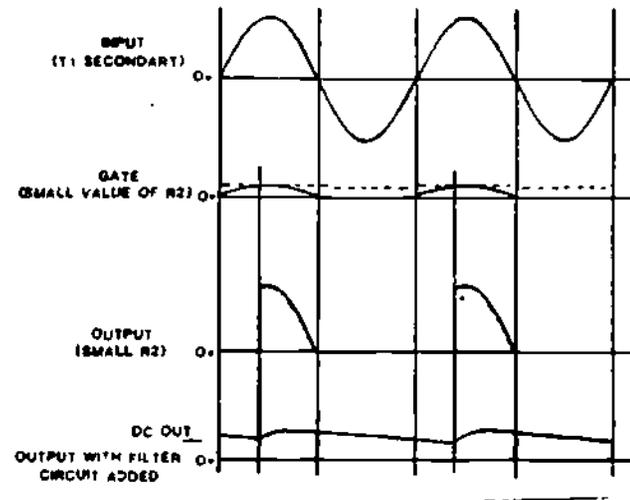

Figure 11
16. The waveforms shown in Figure 11 indicates what happens when the value of R2 is reduced.